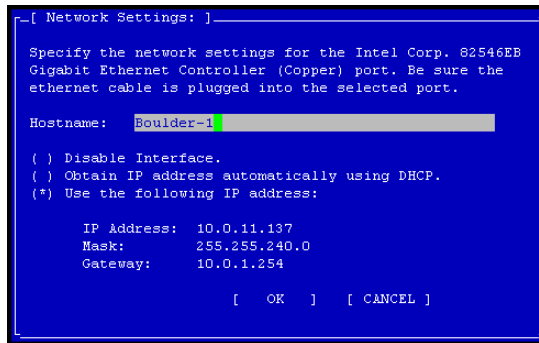

Figure 223. Entering the Host Name and Settings for an Interface
2. Tab to select the network interface that you want to configure and press Enter. The Network Settings window opens, shown in Figure 223.